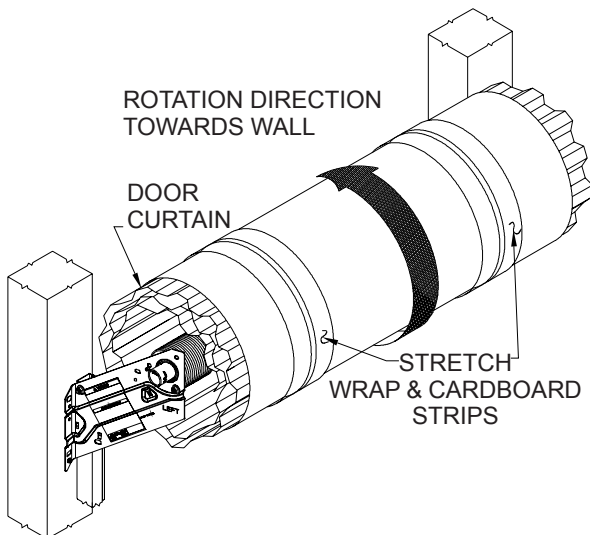

Figure 6
5.1 Determine the proper number of nest rotations needed to tension the door, based on the door size (See Figure 5). Rotate the nest towards the door opening the appropriate number of turns to tension the system (See Figure 6).